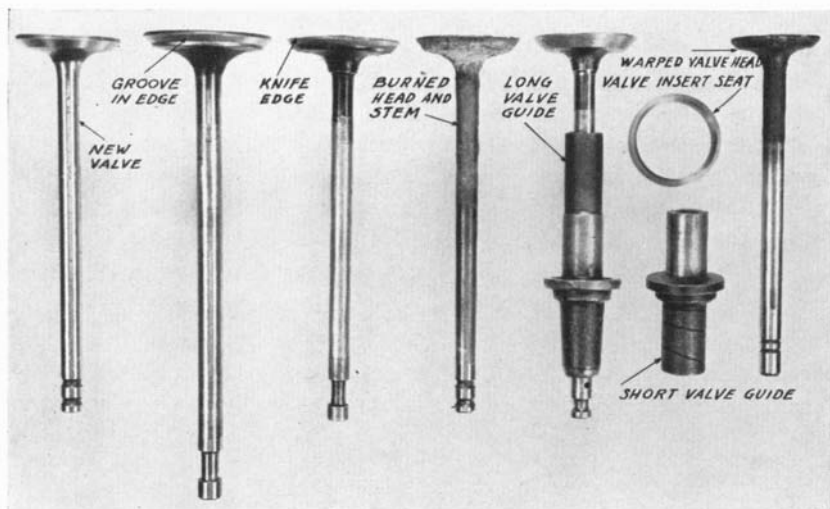

Fig. 3.—Valve troubles that must be corrected
Valve wear usually occurs on the valve face and on the stem where it enters the valve guide. Before removing the valves for inspection, number them starting valve No. 1 at the crank end of the engine. If the valve faces are badly pitted and cannot be reconditioned by grinding, or if grooves are worn in the valve faces, reface them in a valve-refacing machine. The edge of the valve should be blunt (*Fig. 3*). If in refacing it becomes sharp, the valve must be replaced with a new one. A sharp edge burns rapidly and destroys the fit of the valve. If new rings are not installed when the valves are ground, the engine may pump oil.
Badly worn valve guides do not allow the valve to seat properly. Such guides should be driven out with a piece of wood or soft metal and new ones installed (*Figs. 3 and 8*). The seat should then be trued up with the valve guides by means of a valve-seat reamer. When new valve guides are installed, it is usually best to put in new valves. If the guide is badly worn and is not replaceable, ream the hole larger and use a valve with an oversized stem.
4. See that lower ends of valve-stem guides have not become thickened. These guides, extending down thru the cylinder head into the manifold chamber, sometimes become very hot, especially at the end extending into the exhaust chamber, and collect carbon and other material from the combustion chamber, causing the end to become thickened and the opening smaller. This thickening, or "grain growth" as it is sometimes called, may cause overheating or scratching of the valve stems, making them stick. Reaming out the lower end of the valve guide, making the opening $1/32$ of an inch larger extending back half an inch from the end, may leave enough clearance for the proper operation of the valve. Some operators cut off the end of the valve guide extending into the cylinder, cutting it flush with the inside of the combustion chamber, in order to prevent this part from heating and causing the valves to stick (*Fig. 3*).
7. Provide additional lubrication of valve stems, if necessary, in one of two ways: (1) By countersinking a hole in upper end of valve guide to a depth of $3/8$ inch, using a metal drill somewhat larger than the valve stem. This will form a pocket in which oil may collect around the valve stem. (2) If the valve guide is replaceable, by drilling small holes $5/32$ inch in diameter at three places around the valve guide (*continued on page 16*)